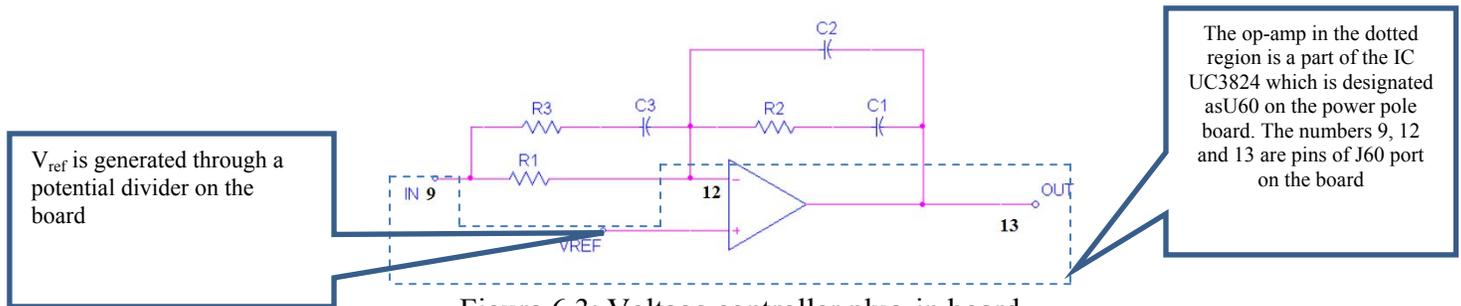

Figure 6.3: Voltage controller plug-in board.
Once you get the transfer function or the Bode-plot of the buck converter, you can design a Type-3 voltage controller. The Type-3 voltage control board has the schematic as shown in Fig. 6.3.
6. Determine the values of the resistors and capacitors used to implement the controller in Fig. 6.3 and substitute them in Table 6.1.